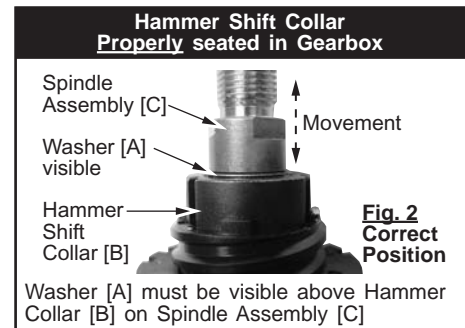

Fig. 2 Correct Position
- Washer [A] visible above hammer shift collar, (fig. 2).
Rotate shift collar left or right by hand until it drops into position shown in (fig. 2). The washer must be visible, and the .160 wide shift collar notch [1] must be in-line or slightly left of top 12 o'clock position, as viewed from the front of the gearbox.
If Washer [A] is not visible, turn collar left or right by hand until it drops into position shown on [fig. 2]. Only one position will allow Hammer Shift Collar to drop down.